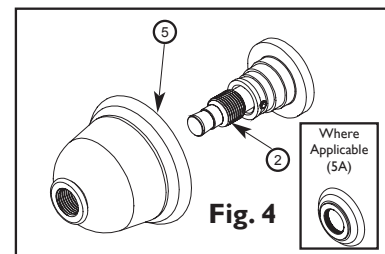

Fig. 4
5. Place ESCUTCHEON (5) onto POST (2).
Where applicable to your model, a DECORATIVE RING (5A) will be located under the ESCUTCHEON (5). (See Fig. 4)